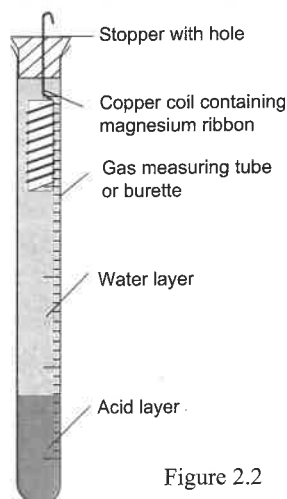

Figure 2.2
4. Pour 15 mL of 3 mol L⁻¹ hydrochloric acid into the gas measuring tube. Carefully fill the tube with tap water from the beaker so that the acid layer remains at the bottom of the tube as shown in Figure 2.2.
5. Hold the copper coil by the handle and insert it into the tube. Place the hook in the handle over the edge of the gas measuring tube and fix it in position by inserting the one-hole rubber stopper as shown in Figure 2.2. The tube should contain no air bubbles and water should fill the hole in the stopper.